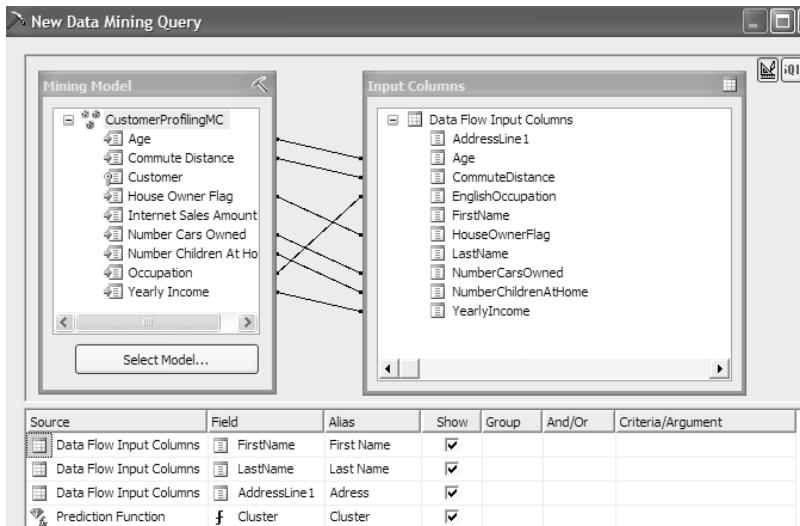

Figure 8.32 Use the Cluster function to predict the customer cluster.
2. Switch to the Query tab and click on the Build New Query button to open the Data Mining Query Builder (Figure 8.32).